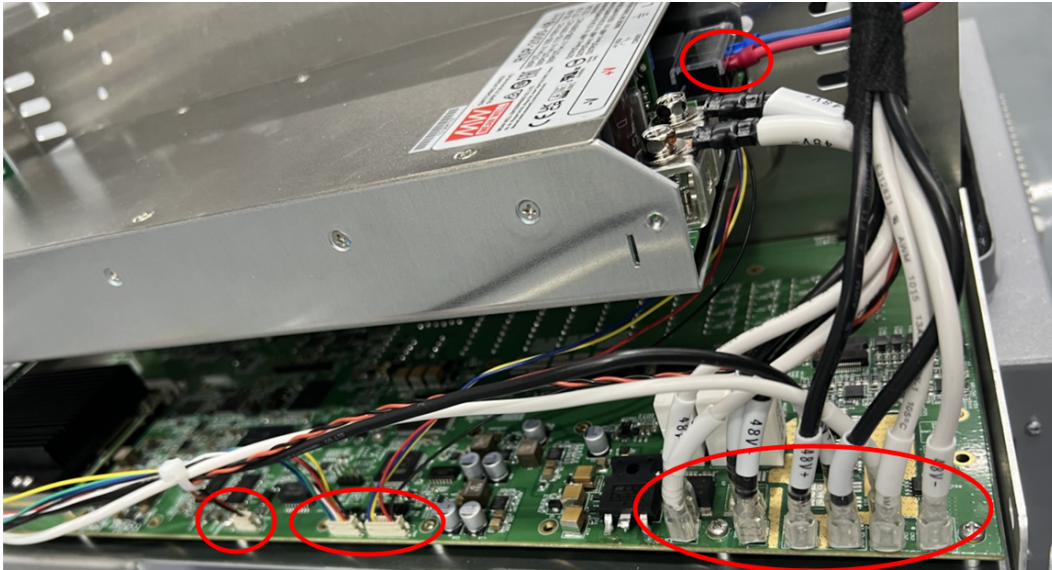

Figure 3-30 : Cable connection
9. Install the power supply back in place and connect all disconnected cables as shown in **Figure 3-30** :